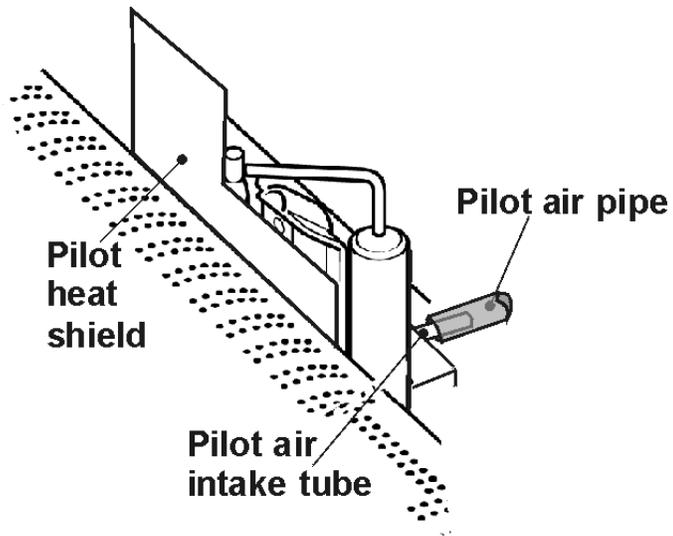

Figure 19. Pilot air pipe location
2. If the pilot is removed, when refitting, make sure that the pilot heat shield is in place between the pilot unit and the rear of the burner and is the correct way round (See figure 19).
3. Check that there is no blockage of the air intake tube at the back of the pilot unit. Make sure that the air intake tube locates fully into the pilot air pipe attached to the back panel (See figure 19).